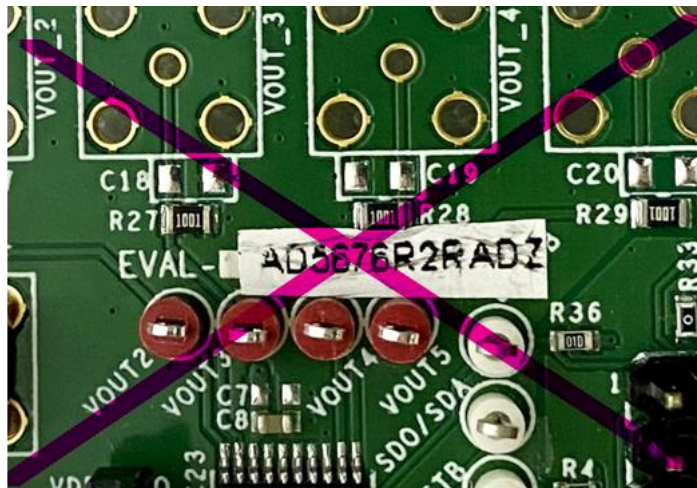

Figure 22 Sticker Mistakes to Avoid
- a. Cut the stickers straightly so that they fit the empty box of the board without covering any labels. Avoid the mistakes shown in Figure 22, where the sticker is dirty and not